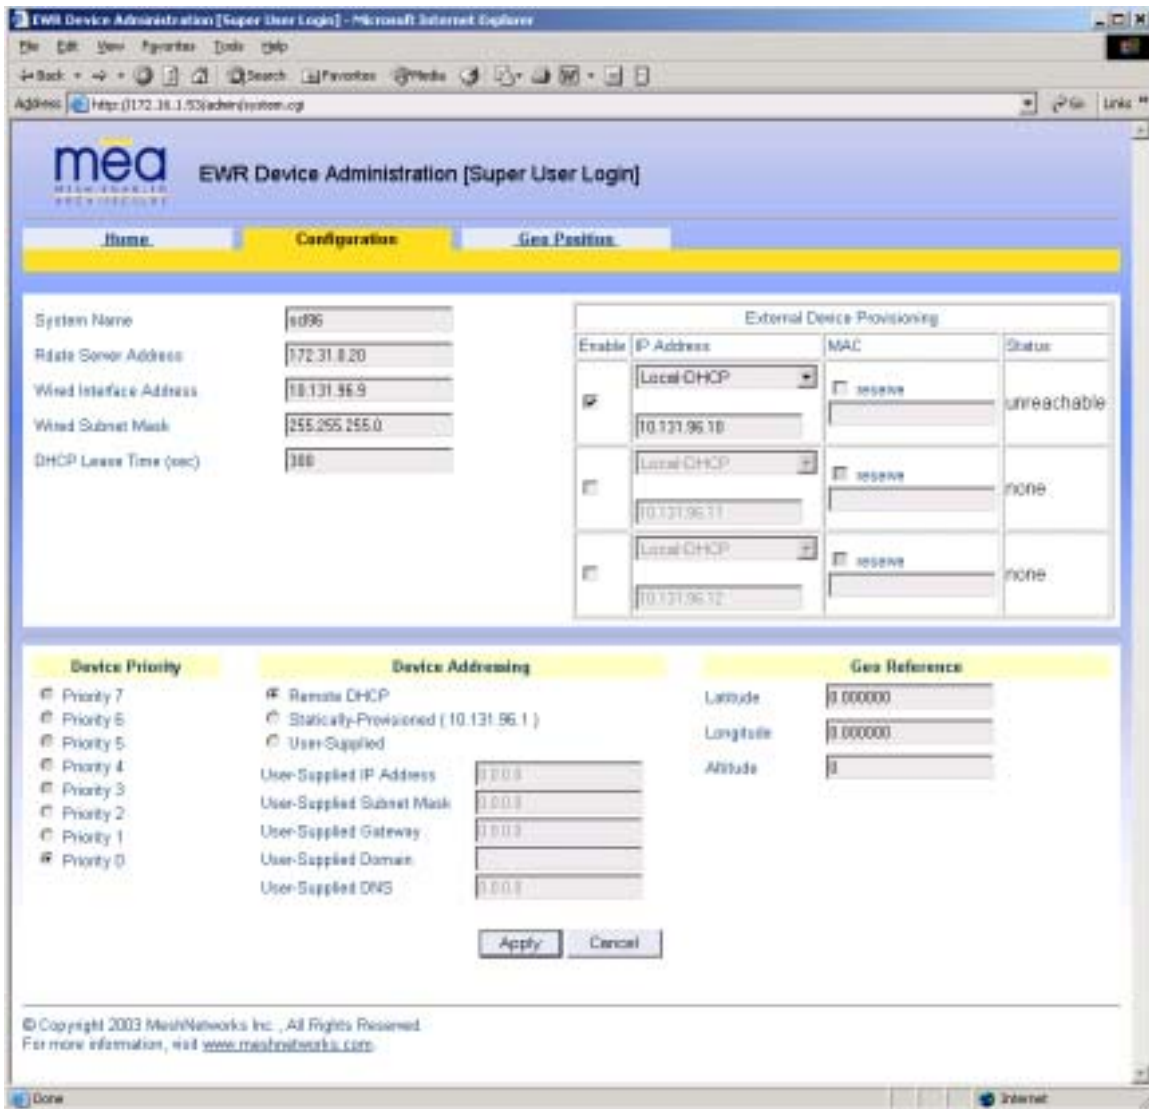

Figure 3-18. External Device Provisioning Table
4. If required, loosen the Pivot Bolt and the Angle Locking Bolt (Figure 3-18) so that the antenna connector is positioned vertically.